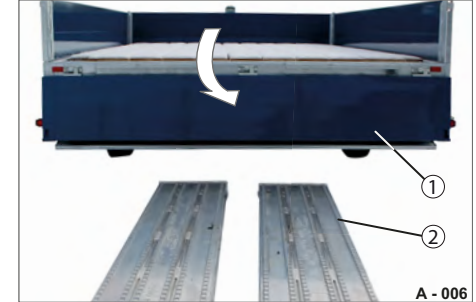

Fig. 10 Rear platform gate folded down
- ▶ Carefully fold down the rear platform gate (Fig. 10/1), see page 172.